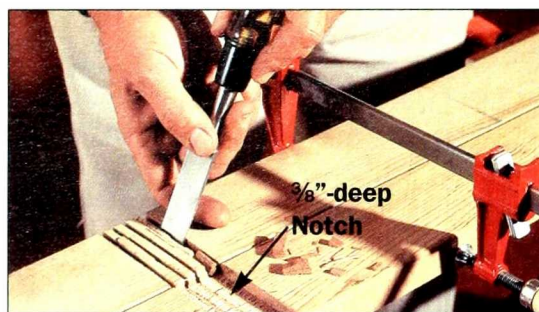

Figure 2: Cut notches in the corner studs that the crosspieces will fit into. Make several cuts with a circular saw, then chisel out the waste.
- As you work, keep the ripped 4x4s in pairs. Clamp the pairs of ripped studs back to back, and notch them to accommodate the two crosspieces that will form the window openings (Figure 2).